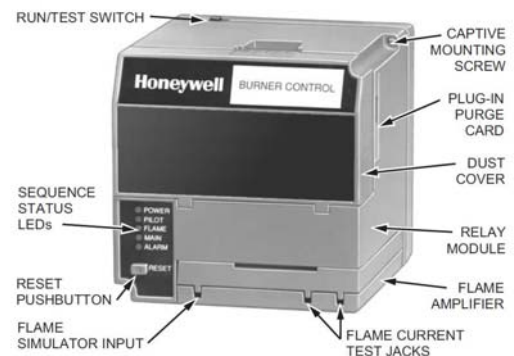
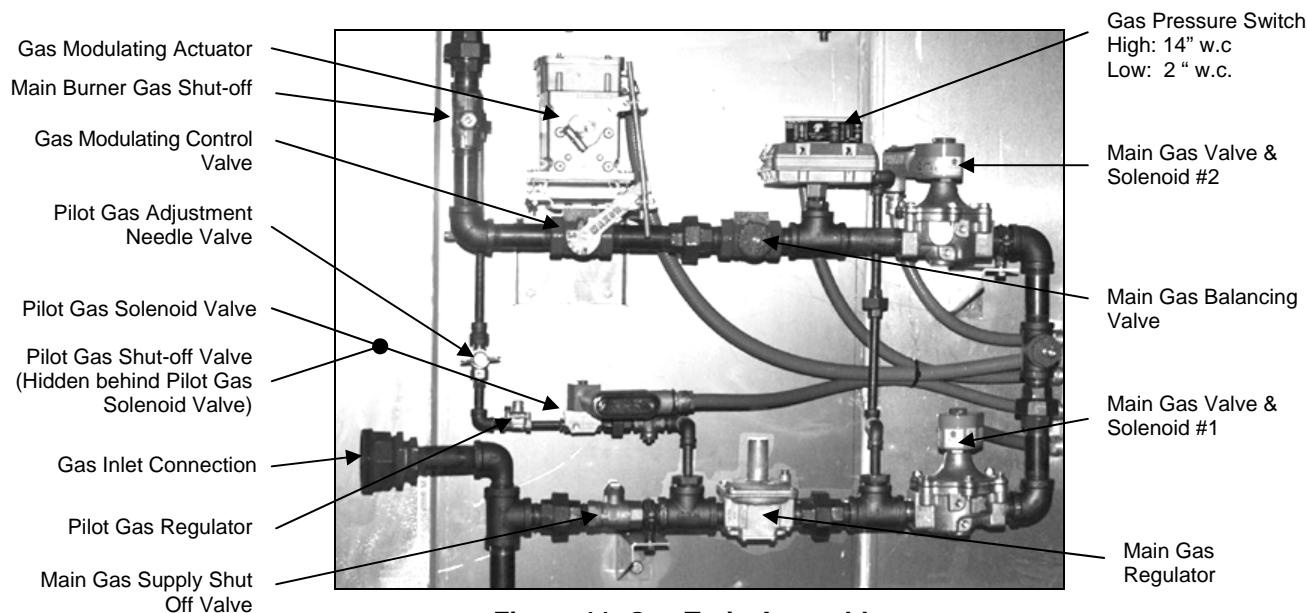

Figure 9. Burner Control Relay Module
Figure 11. Gas Train Assembly
Relay Module (see Figure 9). Refer to the Gas Flow drawing included in the Technical Data Package for a gas train schematic that shows the component designators referenced in this document. See Figure 11 for a photo of a typical gas train that calls out the major components.
Note: The safety lockout requires a manual reset. See Figure 9 for the location of the reset button.
5. To light and adjust the gas pilot: Open the Main Gas Supply Shut-off Valve and open the Pilot Gas Shut-off Valve (see Figure 11). Start the unit and ensure the PILOT Sequence Status LED on the Burner Control Relay Module illuminates (see Figure 9). Observe the pilot flame through the burner viewing window.